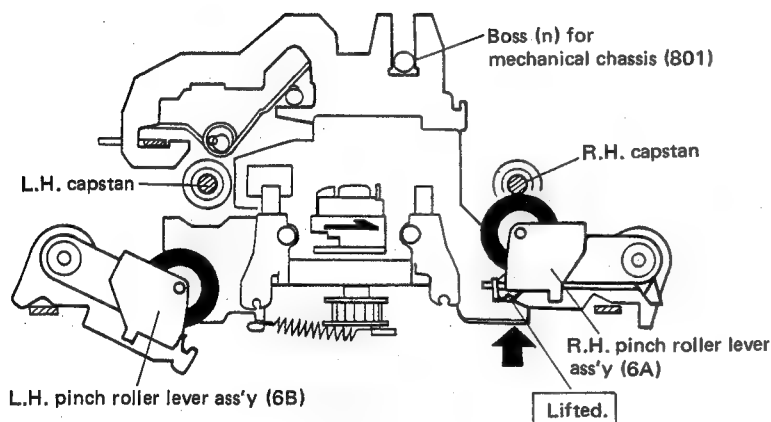

Fig. 12
- 10) As a result, the head slider ass'y (37) is closely fitted to the boss (n) of the mechanical chassis (801) while the R.H. pinch roller lever ass'y (6A) is closely fitted to the capstan. Now, the mechanism is ready for forward play. (See Fig. 12.)